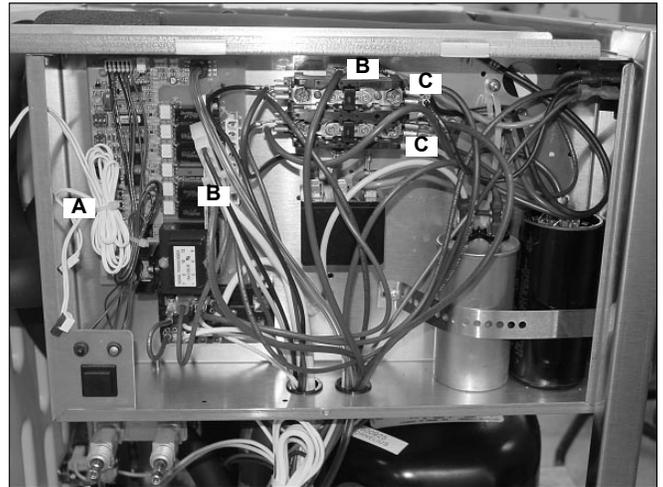

Figure 16.
- (Figure 16) Curtain Switches (A) – 2 white low voltage plug harnesses (control board).
- (Figure 16) High Pressure Cutout (B) – 2 blue wires (Contactor and #5 pin on control board).
- (Figure 16) Crankcase heater (C) – 2 blue wires (line side of contactor).